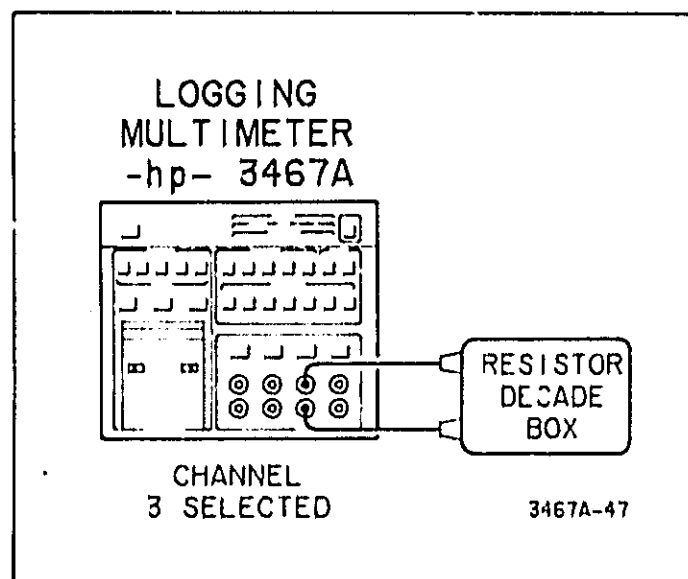

Figure 5-1. Temperature Measurement Accuracy Test.
- b. Connect the precision resistor decade box to Channel 3 as shown in Figure 5-1 and adjust the decade box to the test load value,  $R_1$ , listed in Table 5-2.